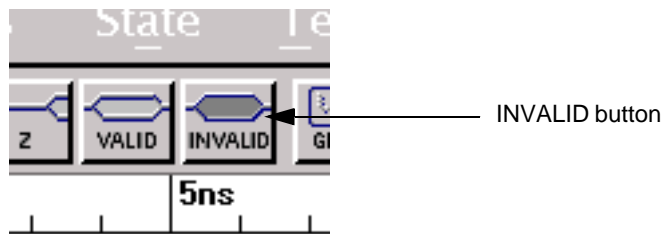
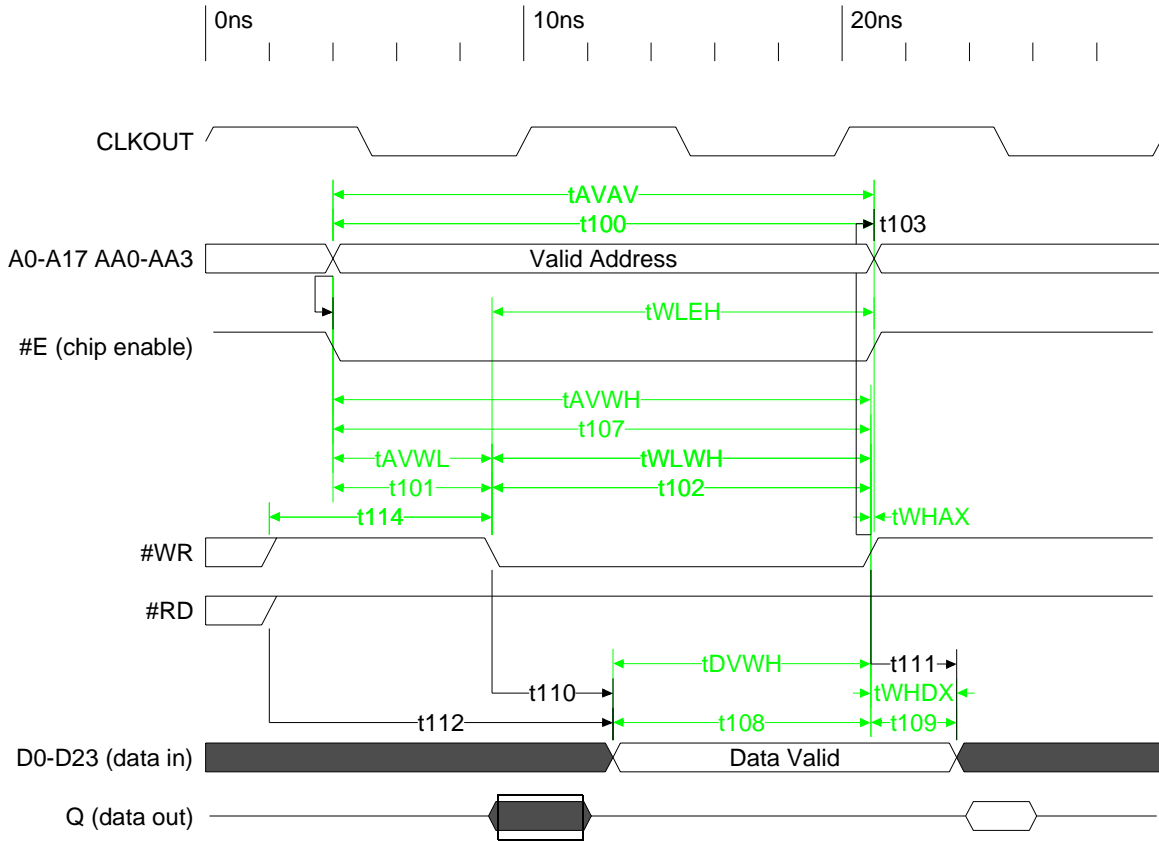

Figure 10. Invalid Tool
Figure 11. Changing Signal from Valid to Invalid
2. Click on the **INVALID** button shown in **Figure 10** and located at the top of the diagram window. **Figure 11** shows the result.